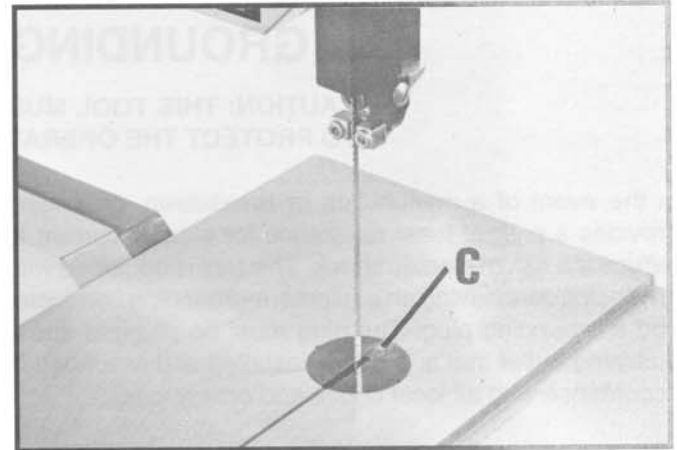

Fig. 6
2. Position table insert (C) Fig. 6, in saw table as shown.